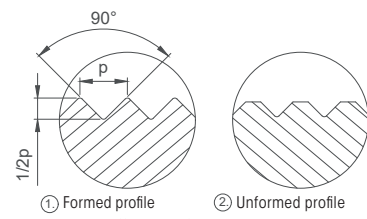

Fig. 6: Different profile pattern
The profile depth is set approx. 1mm behind the chamfer of the workpiece in the X direction and corresponds to approximately the half pitch p (with 90° flank angle), (cf. Fig. 6, ref. 1). After reaching the limit depth, the dwell time of the tool should be 3 – 10 revolutions of the workpiece. Then move in the Z-direction until the desired knurl width is achieved. Then disengage the tool while the spindle is rotating.
The correct profile depth has been reached when the profile is knurled completely (Fig. 6, ref. 1). A new setting takes place when the profile is not completely formed (Fig. 6, ref. 2). Re-adjustment in the profile is possible, because the knurling wheels catch in the existing profile.